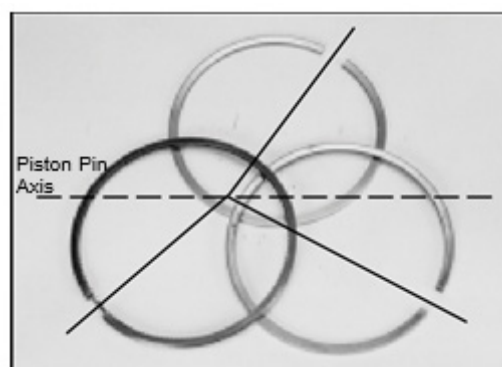

Figure 19
- Ring gaps are to be spaced at 120 degrees. Gaps should not be set along the axis of the piston pin (Figure 19).